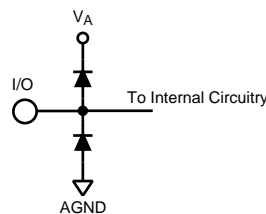

Figure 2.
- (1) The inputs are protected as shown below. Input voltage magnitudes above V_A or below GND will not damage this device, provided current is limited per Note 4 of the Absolute Maximum Ratings Table. However, errors in the A/D conversion can occur if the input goes above 2.6V or below GND as described in the Operating Ratings section. See Figure 2.
- (2) With a full scale differential input of 2V_{P-P}, the 12-bit LSB is 488 μV.
- (3) Typical figures are at T_A = 25°C and represent most likely parametric norms at the time of product characterization. The typical specifications are not ensured.
- (4) This parameter is specified in units of dBFS - indicating the value that would be attained with a full-scale input signal.
- (2) With a full scale differential input of $2V_{P-P}$, the 12-bit LSB is 488 μV .
- (3) Typical figures are at $T_A = 25^\circ\text{C}$ and represent most likely parametric norms at the time of product characterization. The typical specifications are not ensured.
- (2) With a full scale differential input of $2V_{P,P}$, the 12-bit LSB is 488 μV .
- (2) With a full scale differential input of $2V_{P-P}$, the 12-bit LSB is $488\ \mu\text{V}$.
- (4) This parameter is specified by design and/or characterization and is not tested in production.